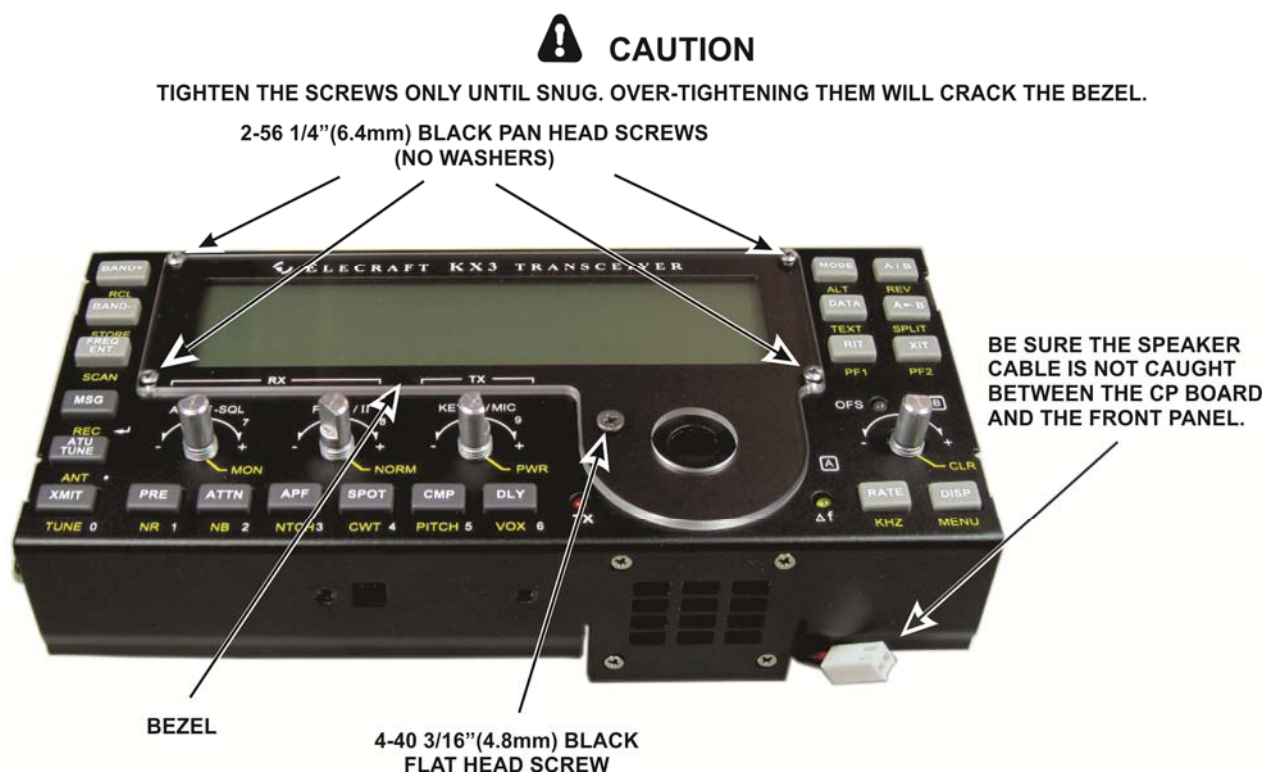

Figure 14. Placing the CP Board in the Front Panel.
- ☐ Place the front panel over the CP board as shown in Figure 14. You will need to reach under the CP board and lift it up into position with the four encoders through the corresponding holes in the front panel. While positioning the CP board:
- ☐ Place the bezel on the front panel and secure it, and the CP board inside, as shown in Figure 14.
- Place the encoder shield over the threaded ferrule with the shield oriented as shown in Figure 14.